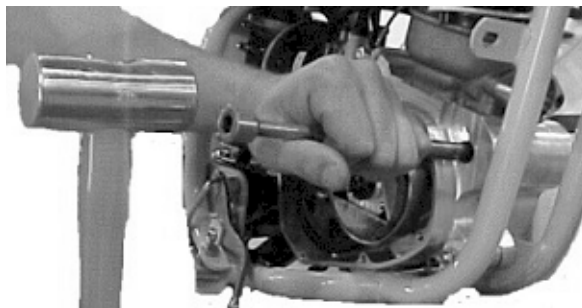

Figure 39
12. Heat engine case around area of impeller lightly with a small propane torch. Using a 3/8" diameter x 8" long steel rod, tap impeller assembly out of engine as shown in figure 39.